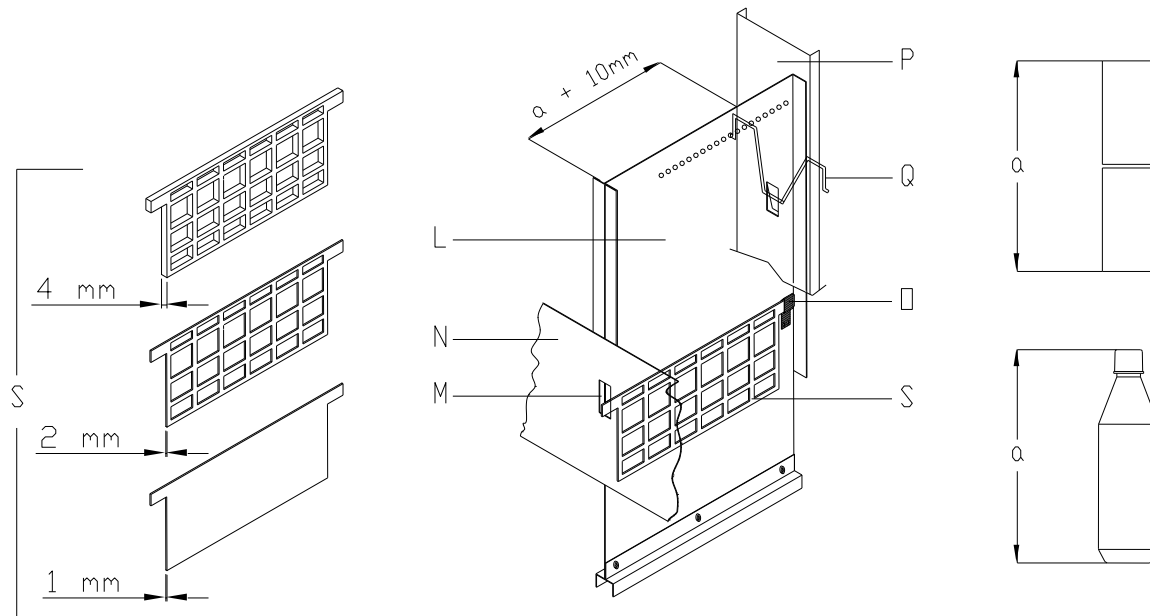

FIG.5.6
Once you have determined the mix of shims to be installed, hang them to the partition (L), sliding one lobe into the slot (M) which is on the vend mechanism front plate (N) and then engaging the second lobe into the spring support (O) which is screwed closed to back end of the partition (L) (rif. Fig. 5.6).
Check spacing between the largest parts of products in row 2 and row 3 for a desired spacing of 3 mm. Add or remove shims to get desired spacing (rif. Fig. 5.6).